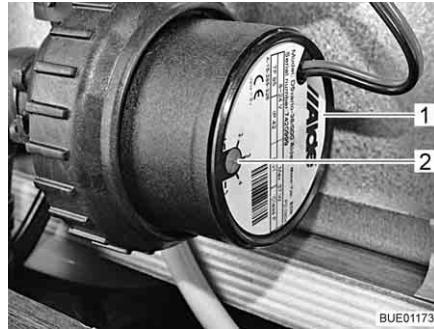

Fig. 188 Speed reduction
The rotational speed of the circulating pump can be set with the control knob (Fig. 188,2). At a lower rotary speed, the operating sounds of the pump are quieter.
The control knob is located on the circulating pump (Fig. 188,1).
- Turn the control knob (Fig. 188,2) in an anticlockwise direction. The output is reduced.